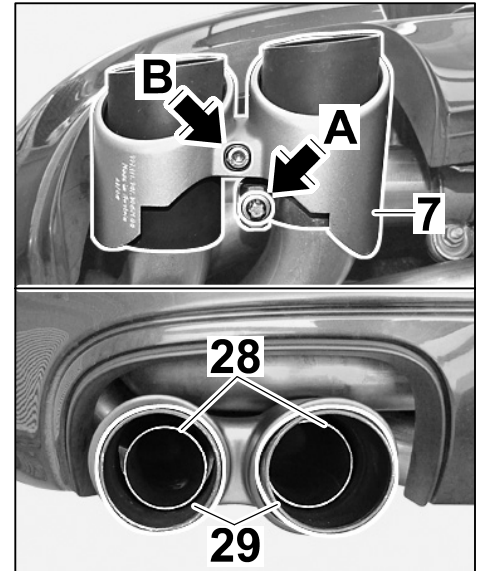

Figure 25
7.4 Install tailpipe covers ⇒ *Figure 25 -A-*.